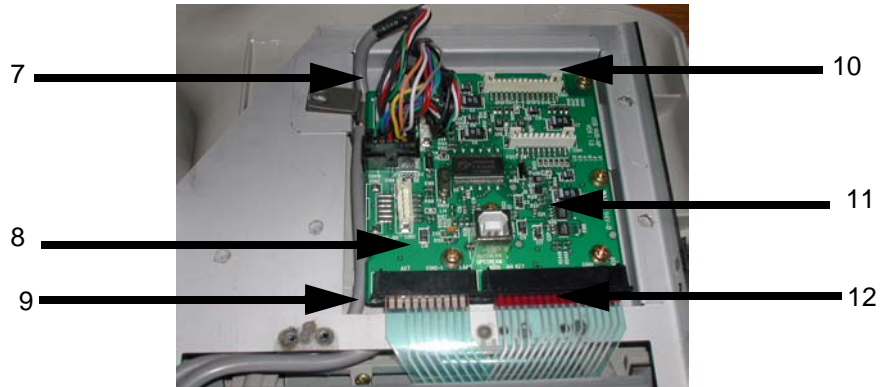

Figure 8-38 Unscrew 6 screws
3.) Unscrew six (6) screws (6-11) to remove HUB Board Assy. Refer to Figure 8-38.